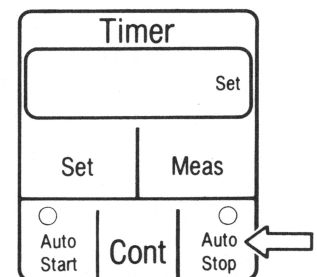

Figure 12. **Auto Stop** Key.
9. Press **Auto Stop** (Figure 12). This command automatically: